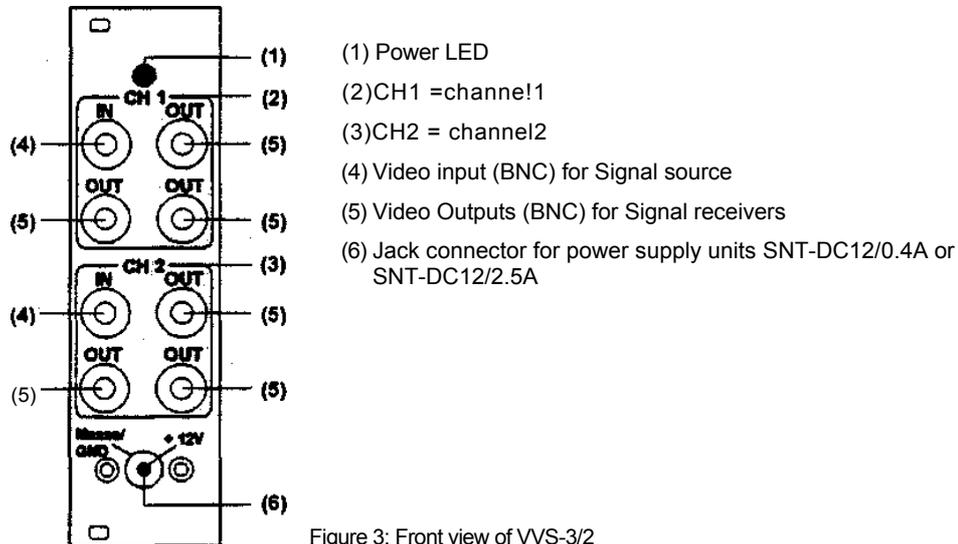

Figure 3: Front view of VVS-3/2
Plug the jack of the power supply unit into the corresponding plug on the front of WS-3/2 (see figure 3, (6)).
- Plug the jack of the power supply unit into the corresponding plug on the front of WS-3/2 (see fig. 3, (6)). When using more than 3 modules, connect the power supply unit to the modules positioned in the middle.